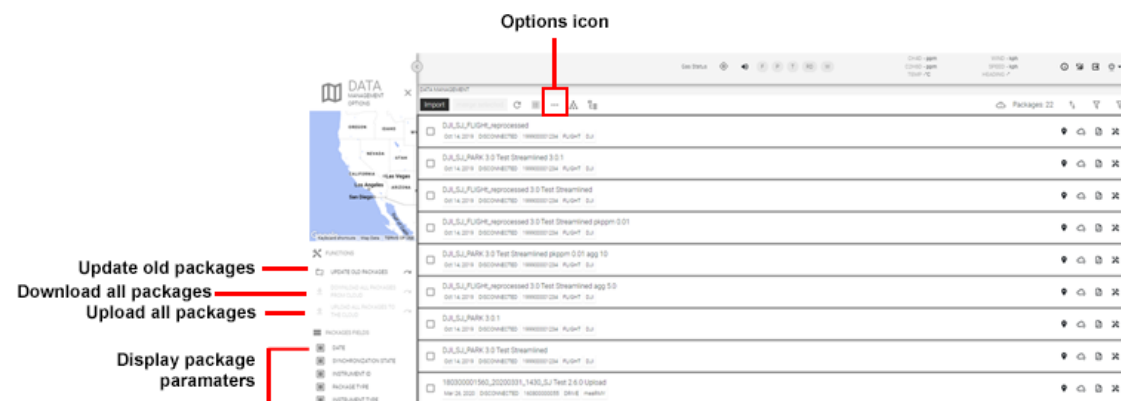

Figure 30 Data Management Options Screen
Click the **Options** icon to access the *Data Management Options* screen (see Figure 30).
- 1 From the *Data Management* screen, select the **Options** icon (see Figure 30).